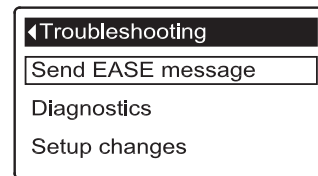
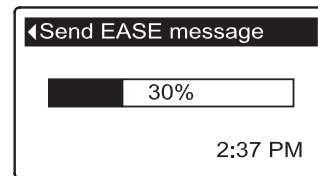

FIG. 147
FIG. 148
5. Press the SELECT (O) button to display the Troubleshooting menu (See Figure 147).
9. A bar is displayed showing the transmission’s progress (See Figure 148). Once completed, the Troubleshooting screen immediately reappears (Figure 147).